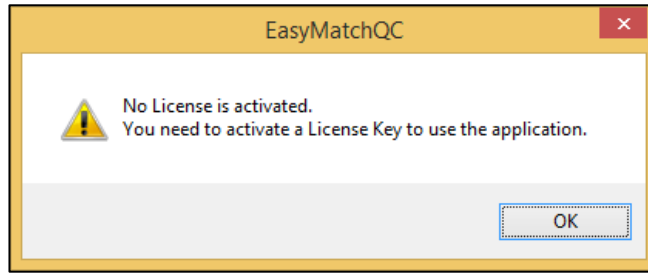

Figure 5. No License Warning
- a. From the **Choose an Option** page (Figure 5), select **Key ID**.